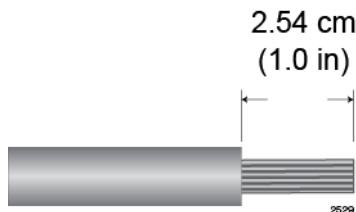

Figure 128. Stripping the solid or Stranded Grounding Wire
1. Prepare an adequate length of solid or stranded 10 AWG grounding wire by stripping it as shown in Figure 128.